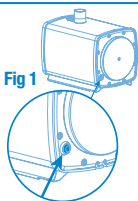

Fig 1
**⚠ To clean the shower gully, carefully follow the manual instructions information. Before removing the water level detection module, use the manual override button (see fig.1) to pump out the water that is inside the shower gully in order to avoid any water penetration into the electrical connection of the level detection unit that will cause a malfunction of the product.** We recommend that once a month the filter for the shower gully is removed and cleaned to avoid blockages.
| <ul style="list-style-type: none"> <li>• The motor does not activate</li> </ul>                                                                                                  | <ul style="list-style-type: none"> <li>• The electrical power supply is not active</li> <li>• The electrical power supply is defective</li> <li>• The motor or the water level detector is defective</li> </ul>                                                                                                             | <ul style="list-style-type: none"> <li>• Restore the electrical supply</li> <li>• Check the electrical power supply</li> <li>• Check the water level detector</li> <li>• Otherwise, ask an approved repair agent to intervene</li> <li>• Push at least 2 seconds on the manual override button, see fig. 1</li> </ul> |